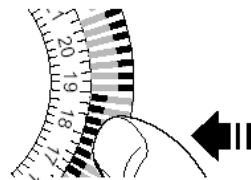
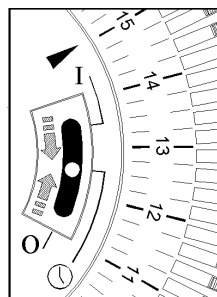
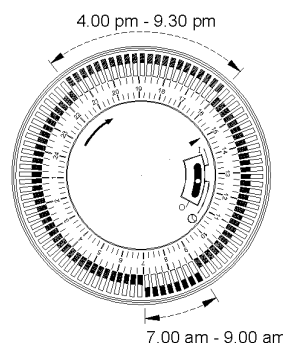

Fig. 7
Fig. 8
Fig. 9
1. Using your finger tip or the tip of a pencil, push in as many segments as necessary around the dial, according to the times you don't require heat – see Fig. 7. Each segment pushed in switches the heater OFF for that part of the hour. All other segments will be ON. For example, Fig. 9 shows the timer set to switch the heater ON between 7 am and 9 am and between 4 pm and 9.30 pm.
Check that the clock shows the correct time of day. Set the I - ⌚ - O slide switch to position marked ⌚ (see Fig. 8) - the convector will switch ON and OFF according to the timer settings (see Fig 9).